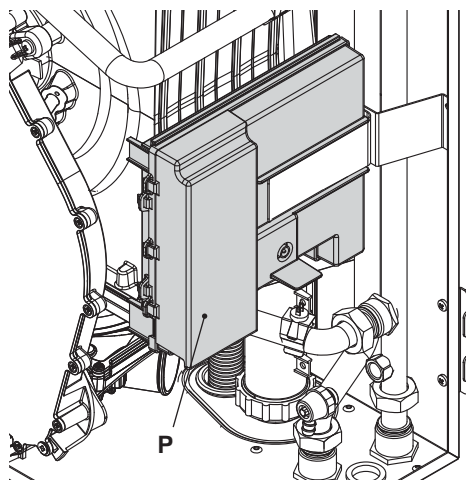

Fig. 6.15
- Identify the terminal block cover lid " P " (Fig. 6.15) and open it.